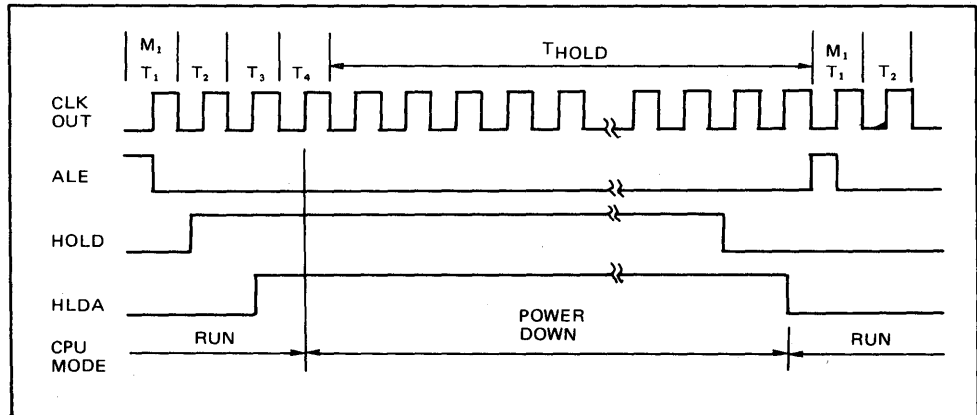

Figure 8. Started and Released by HOLD
(2) Start by means of pin (See Figure 8.)